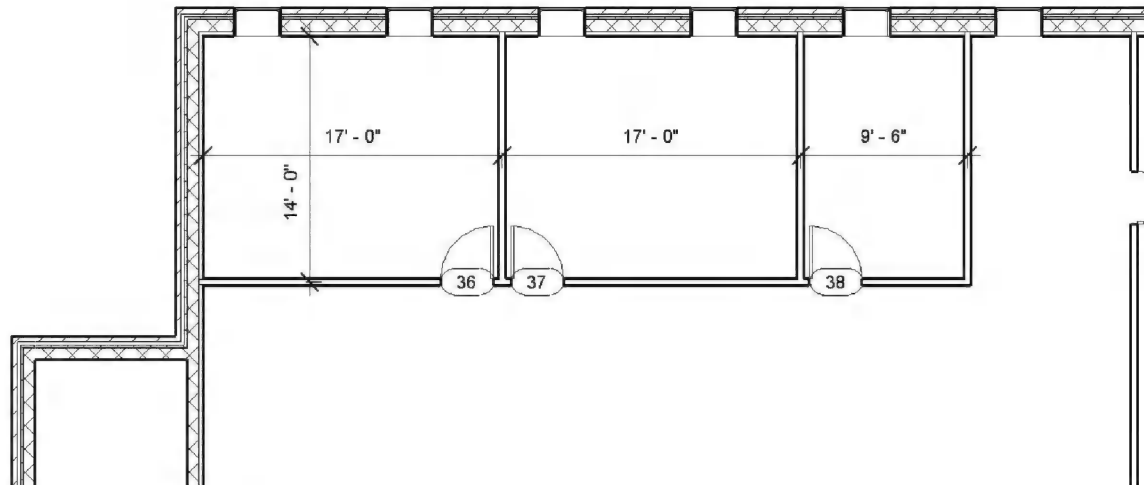

FIGURE 4-2.2 Level 3 - Added walls
2. Similar to step 1, add the walls and doors shown in Figure 4-2.2 to **Level 3**.
3. Use the *Mirror* command to mirror the walls in Figure 4-2.2 to the other three corners of Level 3.